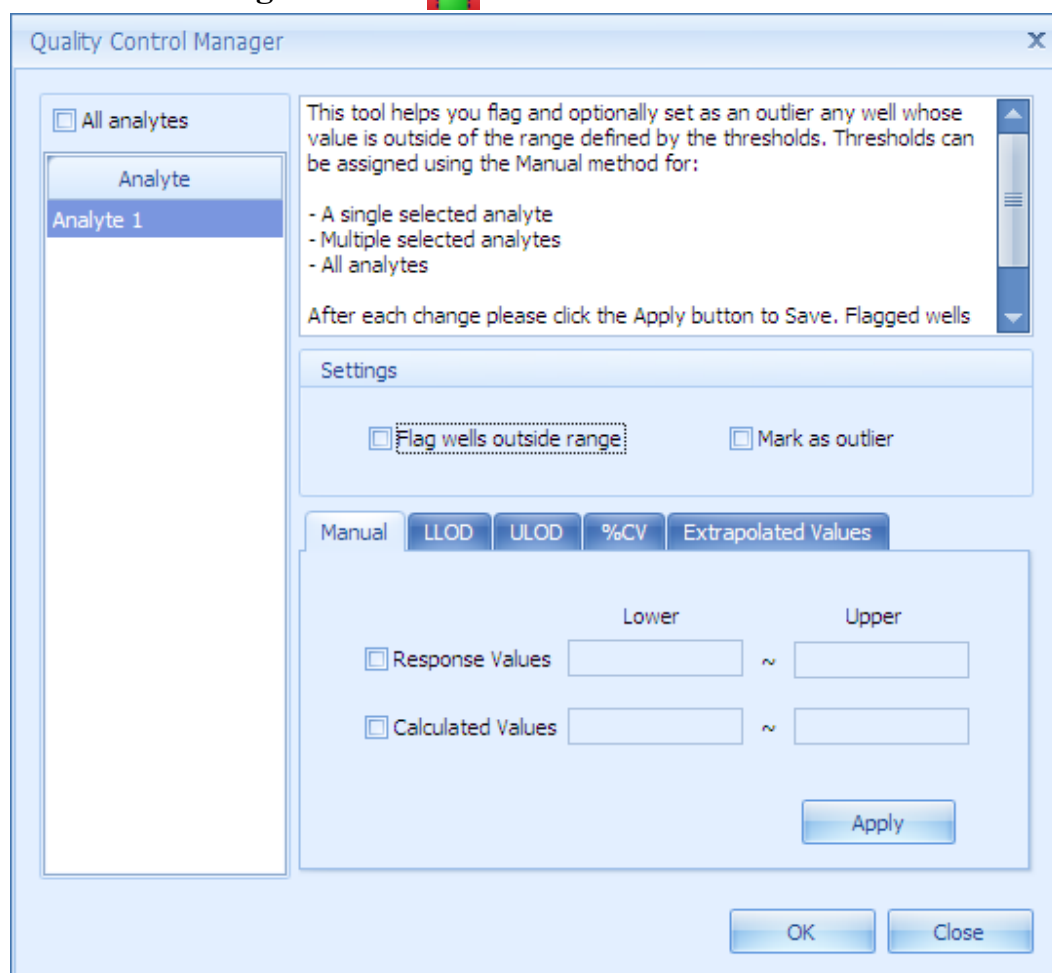

Figure 4.47 Quality Control Manager dialog
- To open the Quality Control Manager (Figure 4.47), click the **Quality Control Manager** button  .